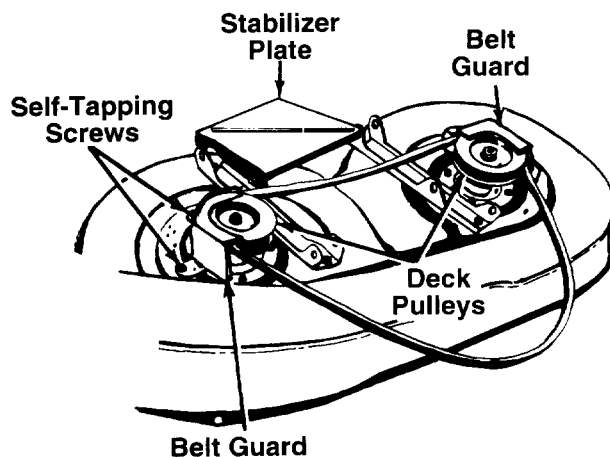

FIGURE 20.
10. Remove the belt guards at each deck pulley by removing the self-tapping screws. See figure 20.